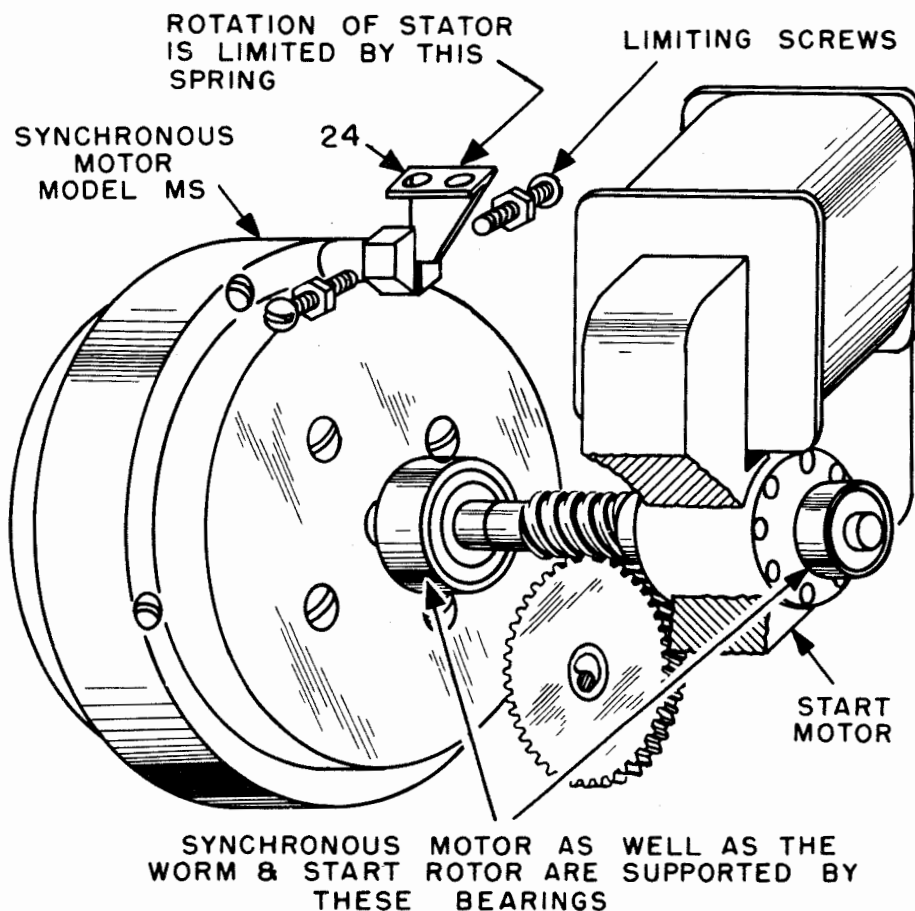

Figure 2-17. Synchronous Motor, Start Motor and Reduction Gear Assembly
b. SYNCHRONOUS AND START MOTORS.—(See figures 2-16 and 2-17.) The model MS synchronous motor used in the recorder is basically a Lacour phonic wheel motor. Its speed is held constant at 1,800 rpm by 1,800-cycle power supplied by the motor amplifier tubes. A double thread worm on the motor shaft meshes with a worm gear to drive the shaft sleeve, ratchet, and pawl mechanism at 60 rpm. The worm gear (3) is clamped to the sleeve (5) by the clamping screw (23) on the split clamping ring (22). (See figure 2-16.) The rotor of the synchronous motor fastens directly to the shaft. The stator fastens to the casting through a spring (24 of figure 2-17), with limiting screws adjusted to allow no more than 1/32 inch rotation of the stator in either direction.
The start motor, shown in figure 2-17, is a 60-cycle shaded pole induction motor. The rotor of the start motor is on the same shaft as that of the synchronous motor, so that it can start the synchronous motor by